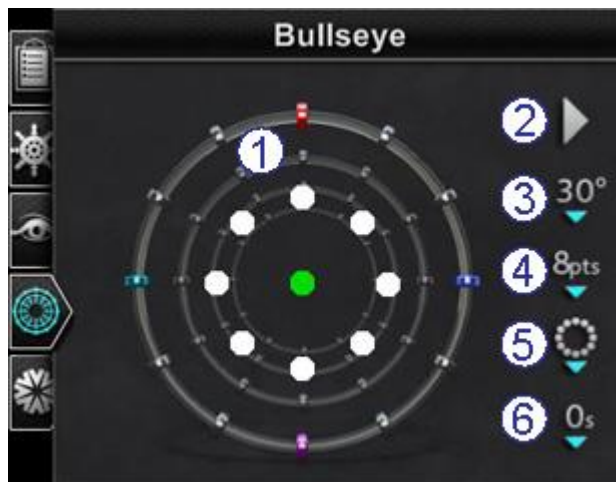

Figure 70. *Bullseye Targeting* control panel with default settings
Bullseye Targeting guide **(Figure 70 and Figure 71)**
① ***Bullseye Targeting.*** The *Bullseye Target* itself is the canvas where the center axis and points are depicted (Figure 70).
Note: The example in Figure 70 shows the default buttons for *Bullseye Targeting* settings.